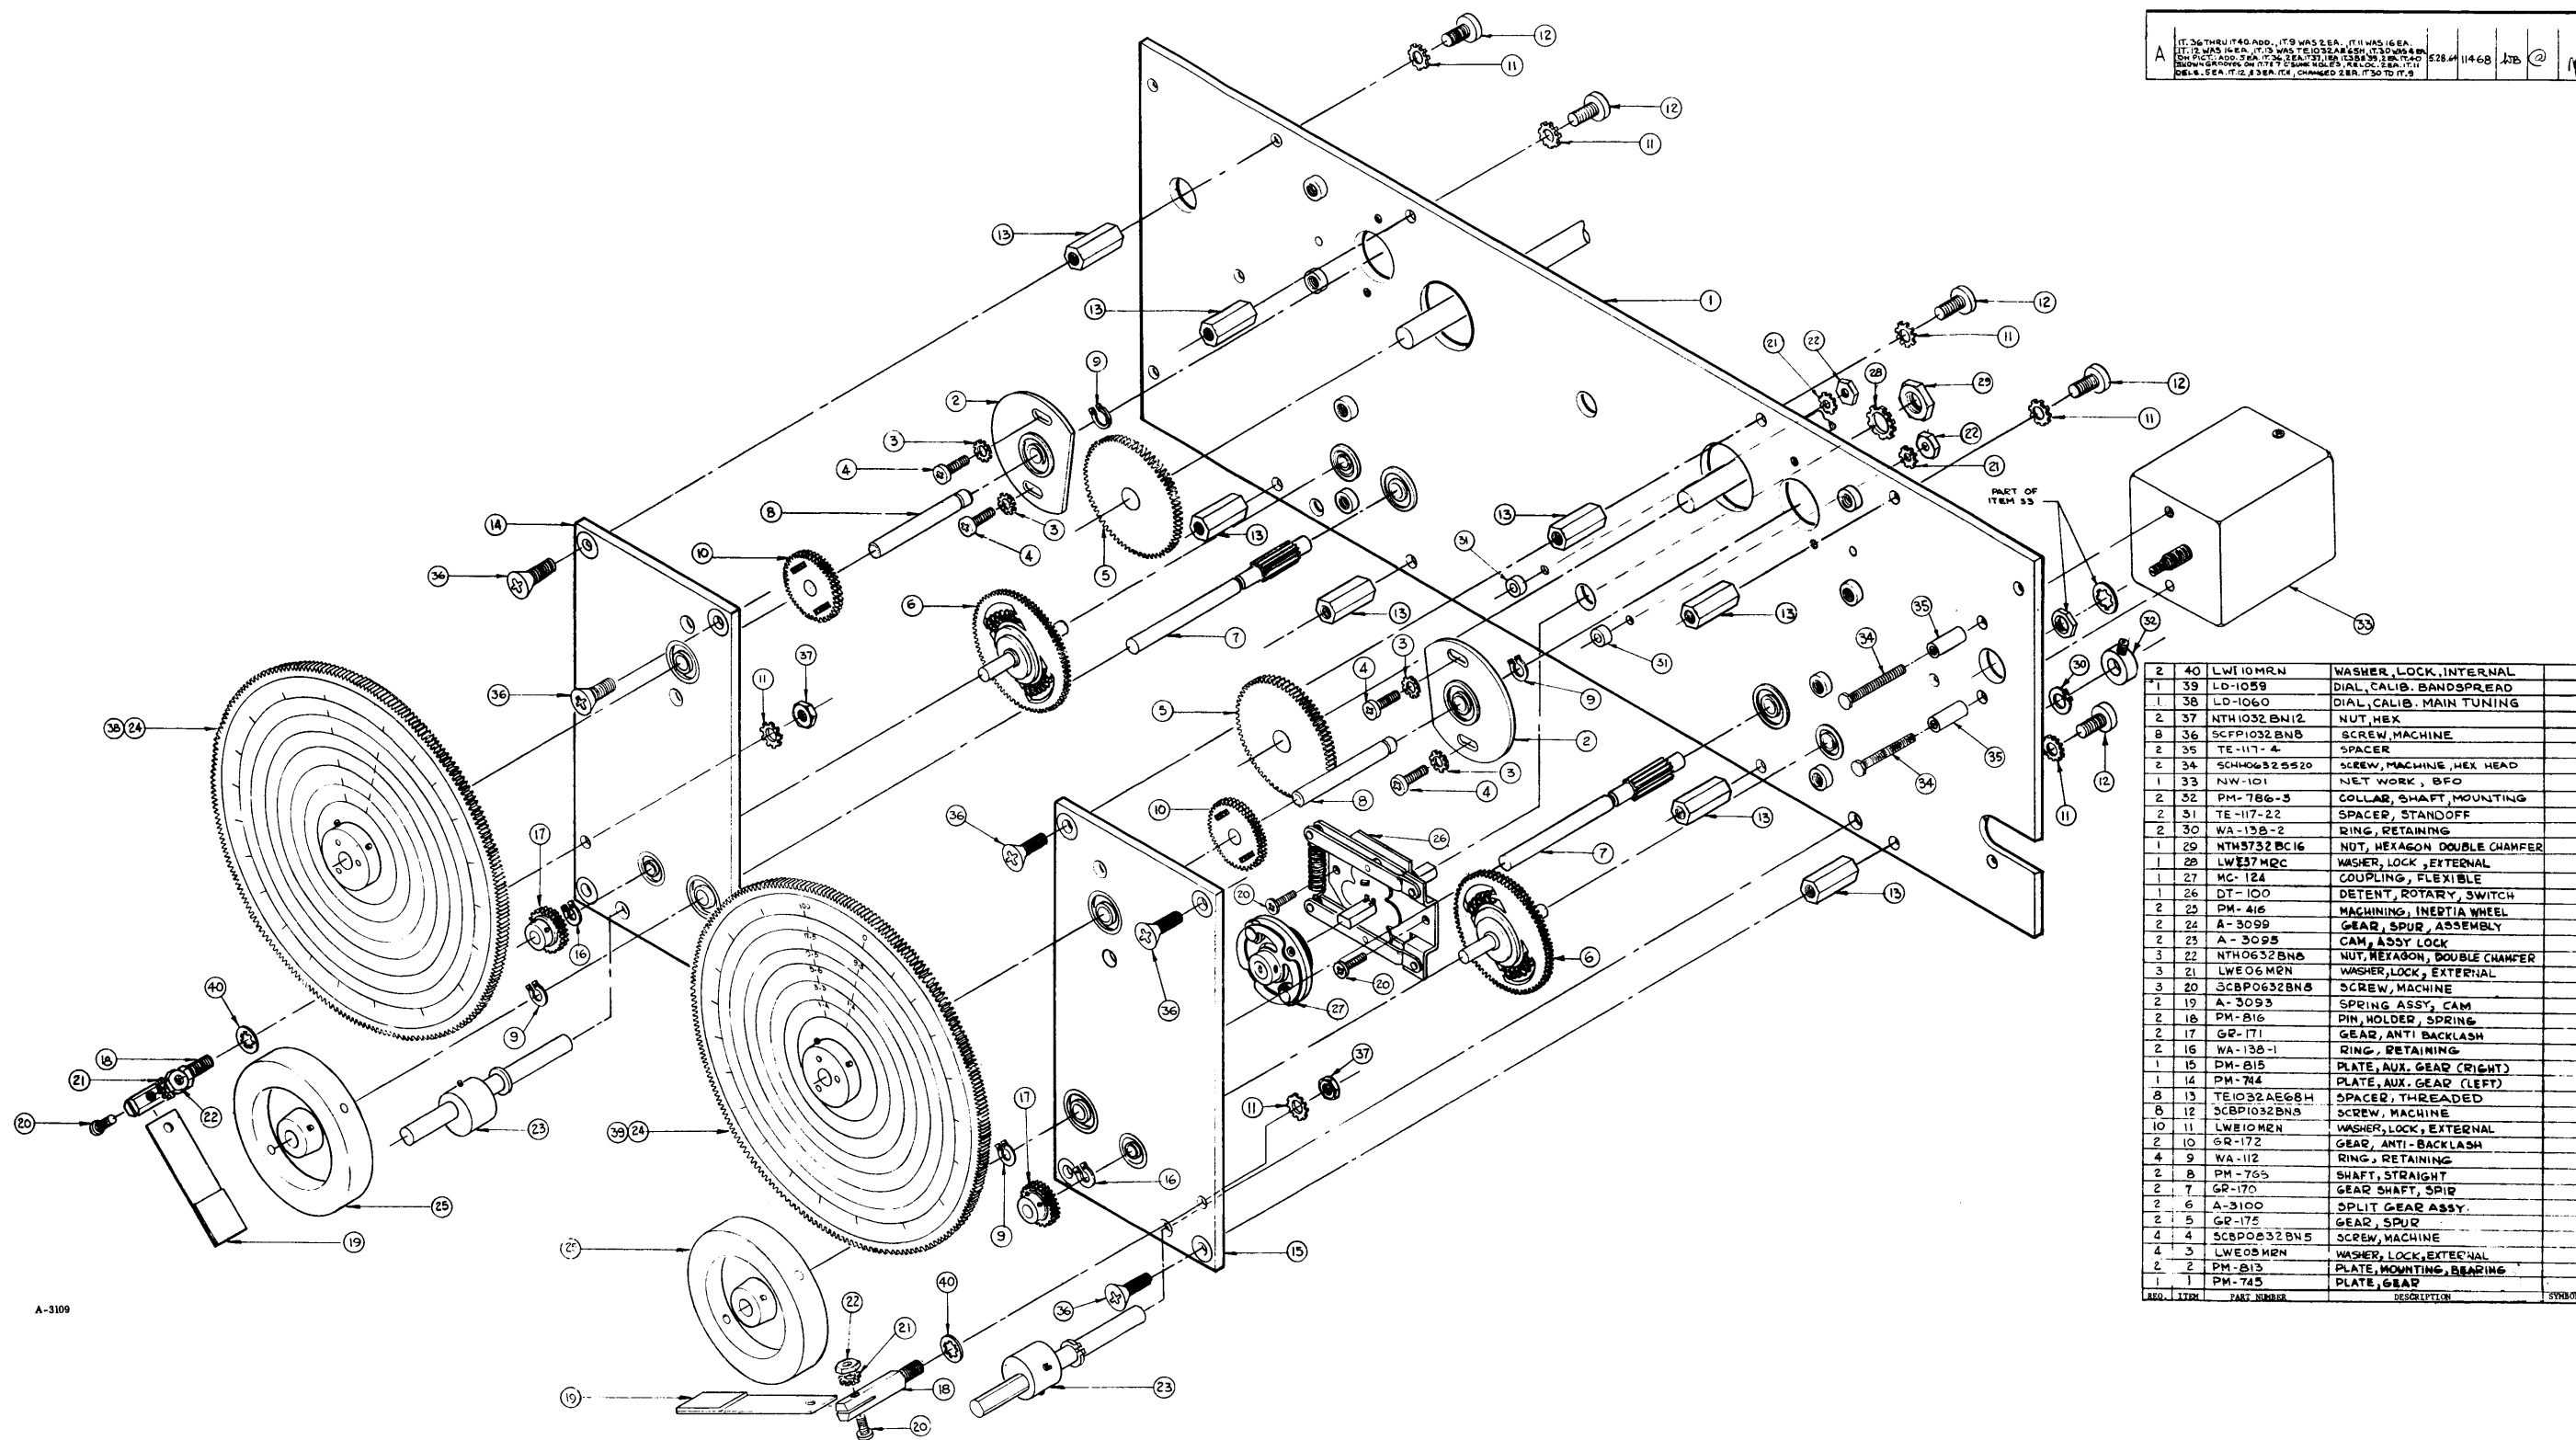

Figure 5-3. RF Gear Train Assembly, Exploded View
(8) REPLACEMENT OF MECHANICAL TUNING AND BANDSPREAD SYSTEM COMPONENTS. This paragraph provides general hints so that a technician using figure 5-3 as a guide will be able to replace any broken or worn mechanical components.